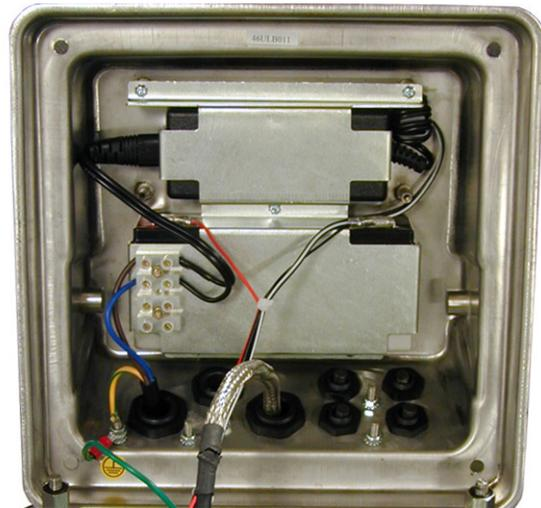

Figure 17
6. To remove the battery and transformer, remove the five screws in the hold-down plate, shown in Figure 17.